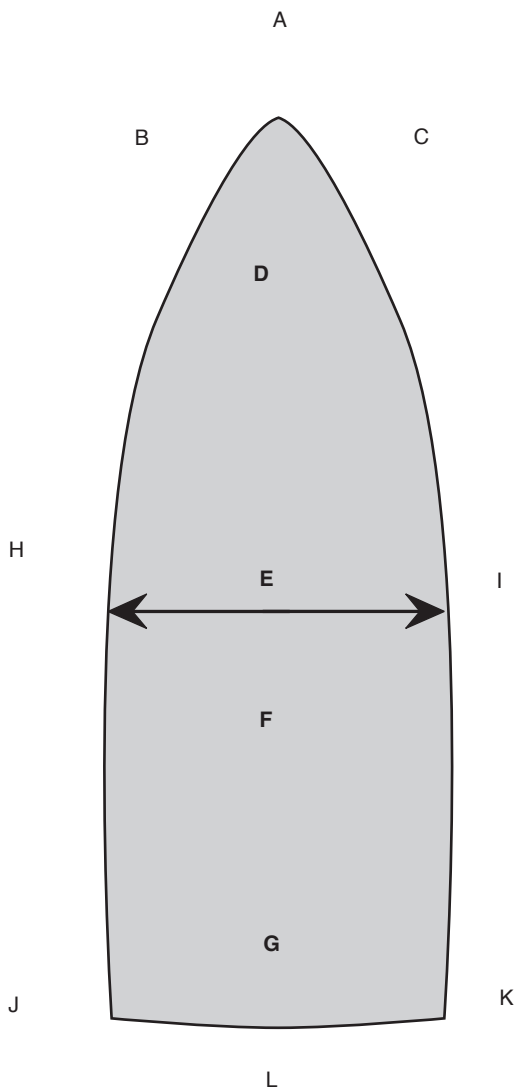

Figure 1.2 Places on a boat/ship/dinghy
2. Redraw the boat outlines in Figure 1.2 and use the list below to mark in the following places.